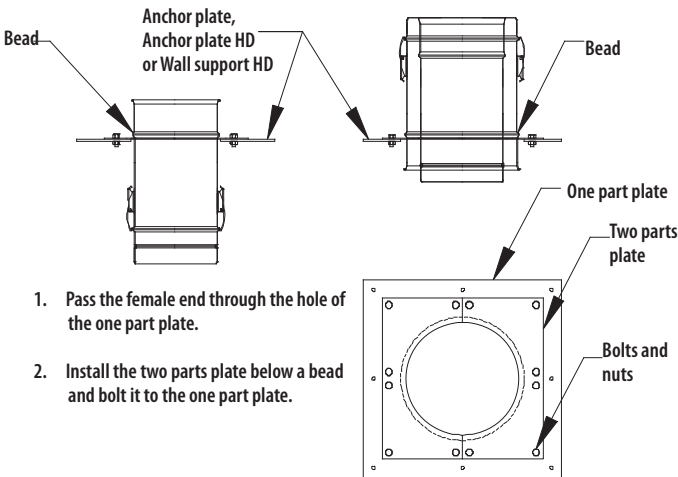

Figure 9 - Position of Support
1. For Anchor Plate (AP) / Anchor Plate Heavy Duty (APHD) / Wall Support Heavy Duty (WSHD), the support must be installed below a bead. See Figure 9.
2. For Wall Support (WS) / Roof Support (RS) , the support can be installed anywhere on the part.